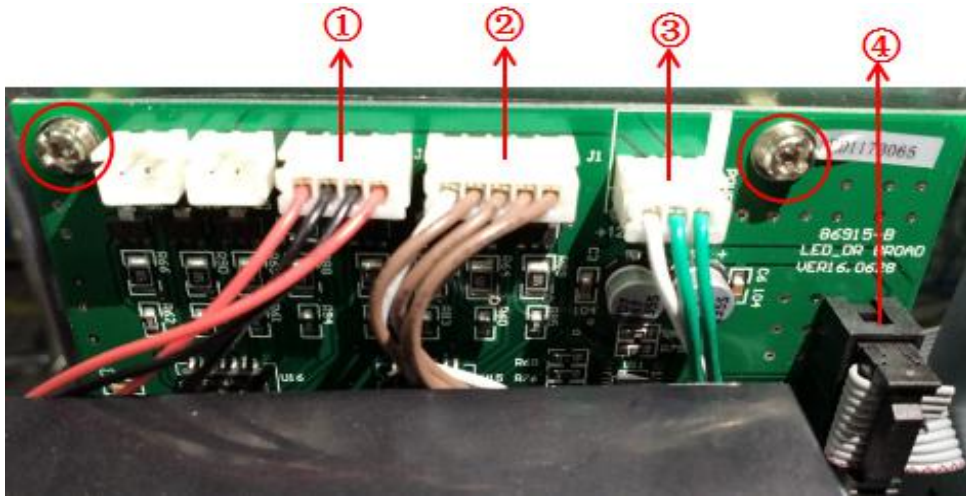

Fig 7.3-1
- 2.Taking out the various wiring plugs and then screw out two M3 * 6 three combination screws that fixed on the LED driver board,and remove LED driver board,as shown Fig 7.3-1.